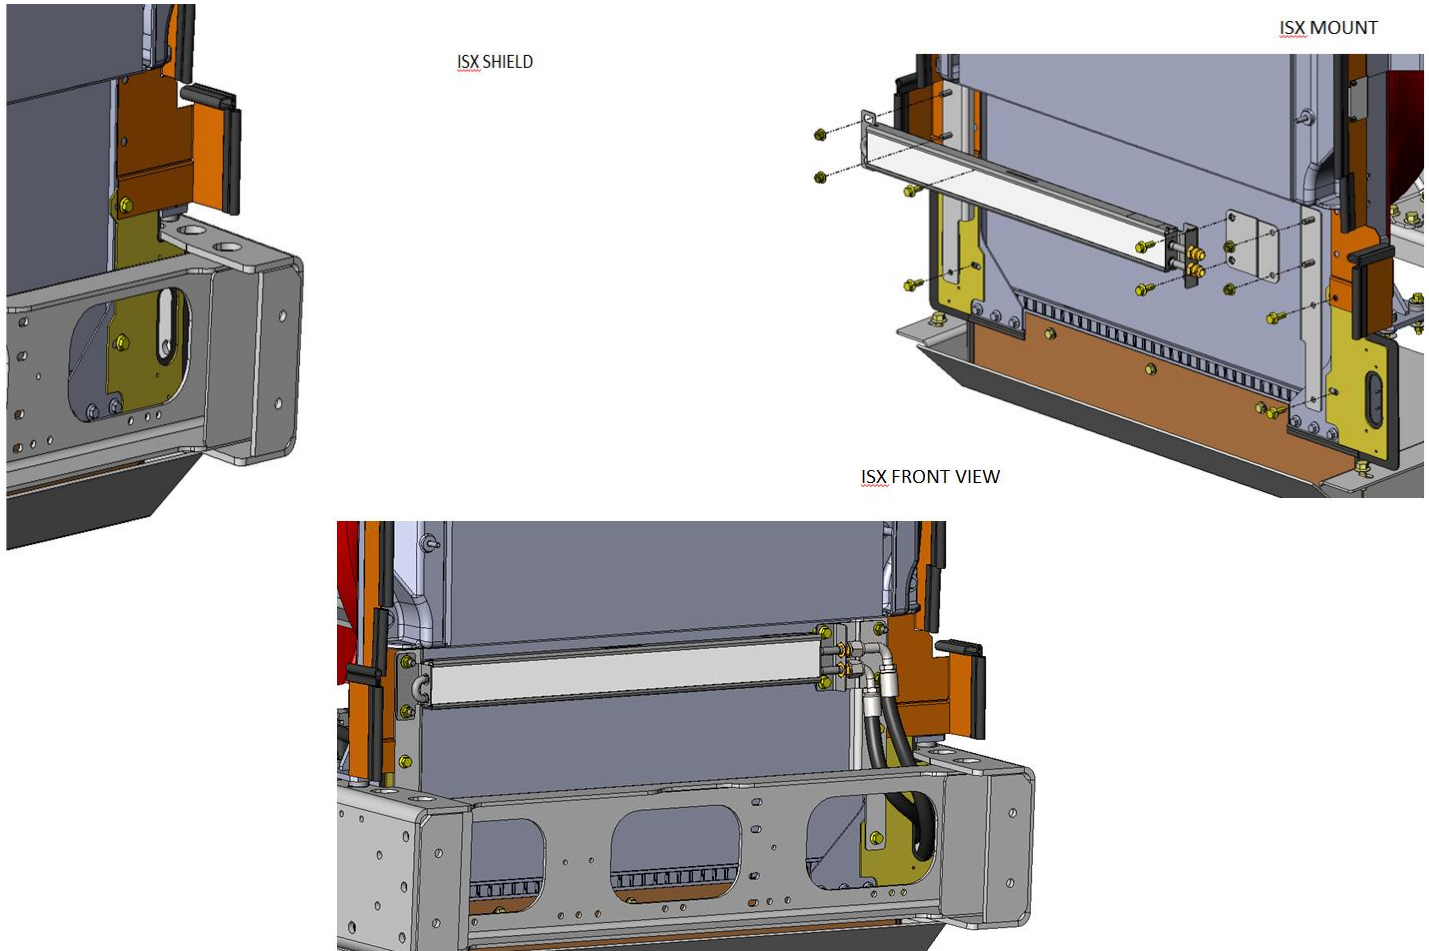

FIG.5-1
5. ISL – Cut a hole small enough to route two # 10 hoses through the lower driver side recirculation shield. ISX models only – remove and replace the driver side lower recirculation shield with one that is provided. Route the two # 10 hoses through the new recirculation shield. Refer to FIG. 5.1.